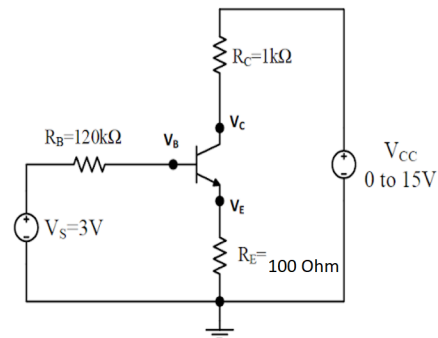

Figure 2
2. Set up the circuit in Figure 2 and measure the V_B , V_C , and V_E voltages for V_{CC} values given in Table 3. Calculate the values of I_B , I_C , and V_{CE} and write them in Table 3.